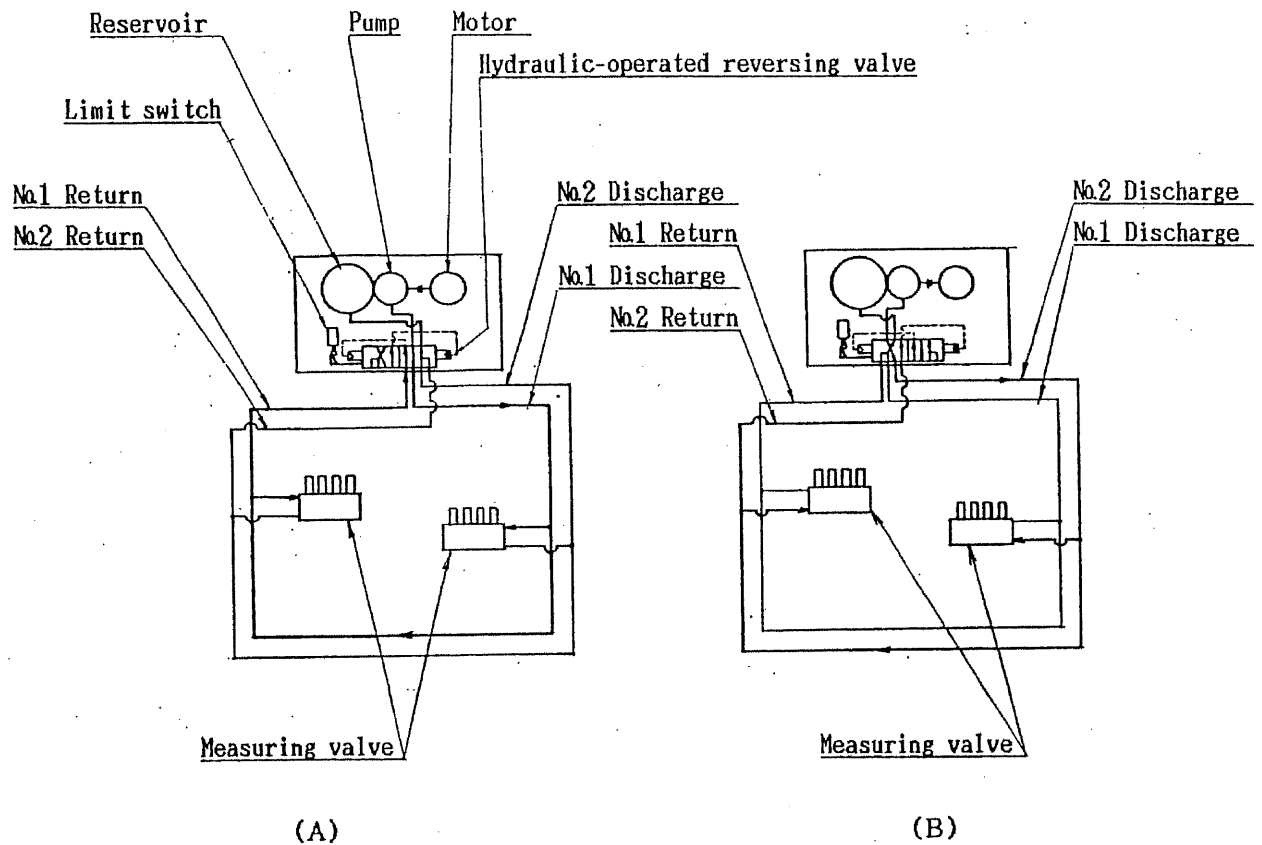

Fig.2 Lubricating circuit
The schematic diagram of the lubricating circuit is as shown in Fig.2 (A and B).
Fig.2 (A) indicates that the discharged grease from the lubricating pump is transferred in the arrow direction through the hydraulic-operated reversing valve (KRV).
While Fig.2 (B) shows that the grease transferred to No.2 line and No.1 line is open to the tank.
In Fig.2 (A), grease discharged from the lubricating pump passes through the hydraulic-operated reversing valve and flows through the line No.1 in the direction of arrow. The grease is then fed under pressure into each measuring valve through the upper side inlet (supply port) to complete one lubricating operation.
Upon completion of lubricating operation, the hydraulic-operated reversing valve is changed over by the pressurized grease at the return port of the No.1 line. This allows the lubricating circuit to form a circuit shown in Fig.2 (B). Simultaneously with the above, a limit switch attached to reversing valve is actuated to stop the lubricating pump drive motor. When the motor is restarted, grease is supplied under pressure through the No.2 discharge line in the direction of arrow shown in Fig.2(B).
This allows the lubricating system to form the circuit shown in Fig.2 (A).
The lubricating cycles described and illustrated in Fig.2 (A) and (B) are alternately repeated until the lubricating operation is completed.